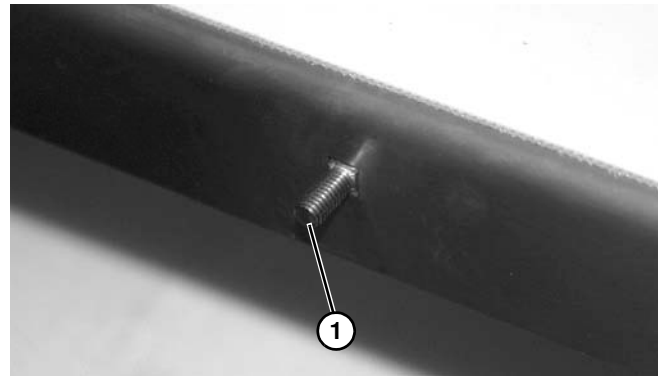

Figure 30
1. Install carriage bolt (Figure 30, item 1) through square hole in conveyor frame.